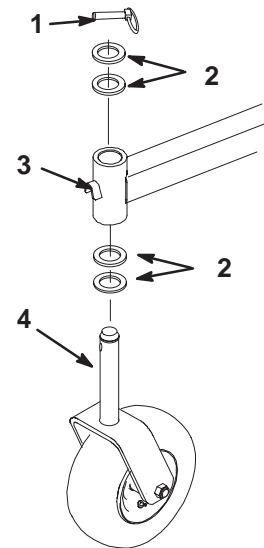

Figure 62
2. Remove the locking pin and spacer(s) from the top of the castor wheel fork (Fig. 62).
6. Inspect the castor wheel fork for wear and replace if necessary (Fig. 62).
7. Slide the castor wheel fork through the bushings in the mounting tube. Replace the spacer(s) onto the fork and secure with the retaining ring (Fig 62).